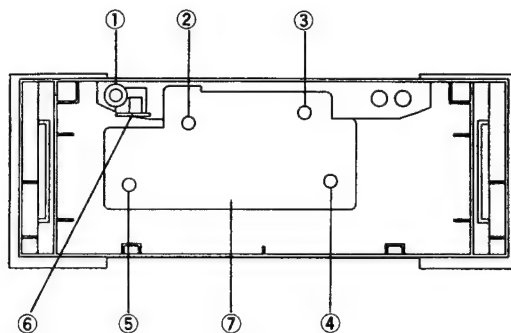

Fig. 7
2. Remove screw ①, in Fig. 7, and then remove pcb-3 ②
3. Remove screws ③ to ⑤, in Fig. 7, and then remove pcb-4 ⑥